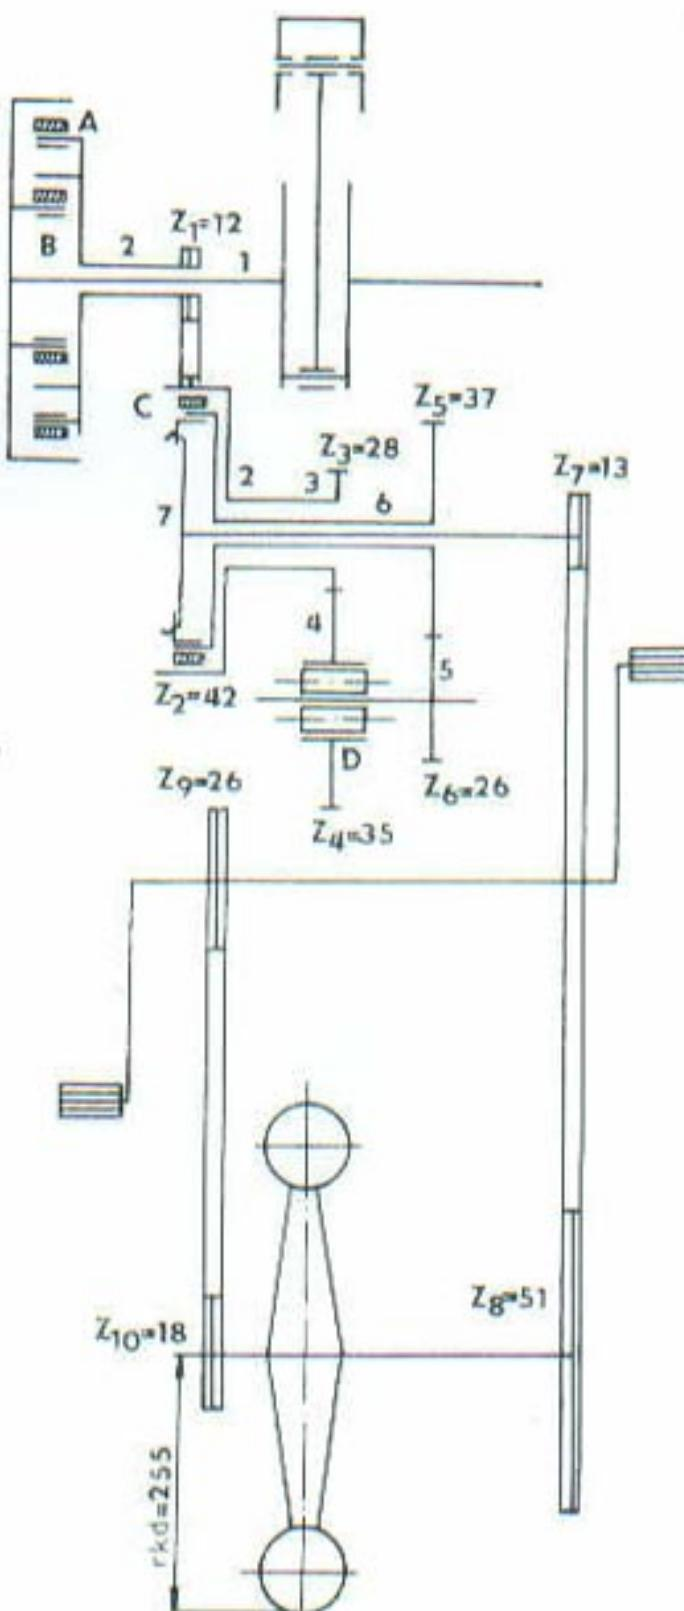

FIG. 4
4. Engine torque transmission - diagram and description - Fig. 4
The diagram of the two-speed automatic transmission is shown in Fig. 4.